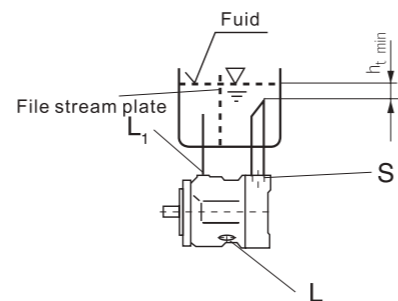

fig. 5
- b) For installation under the tank Connect pipe drain port L and S as per fig. 5.